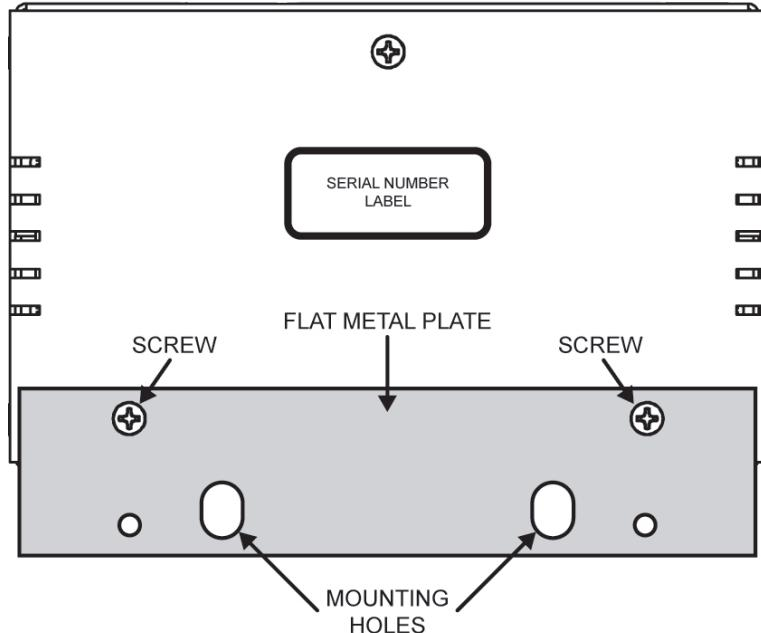

Figure 4.2 Flat Metal Plate Installation Option
2. Install the **Flat Metal Plate** onto the bottom of the chassis **Figure 4.2** using the screws removed in **Step 1..**